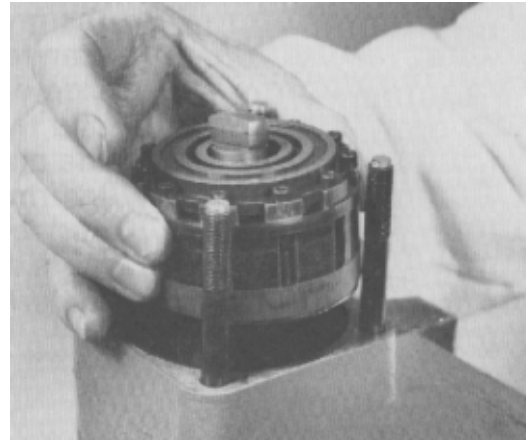

Figure 109
28. Put the metering package, drive plate side first, into the metering ring (Fig. 109). Revolve the input shaft or metering package until the hole in the drive plate engages the end of the input shaft and the drive plate is seated on the thrust bearing. When properly seated, the metering package will be below the surface of the metering ring.